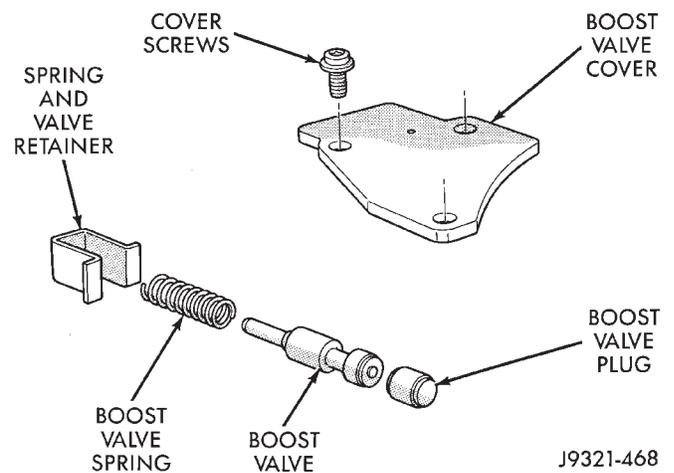

Fig. 70 Boost Valve Components
- (13) Remove boost valve retainer, valve spring and boost valve (Fig. 70).